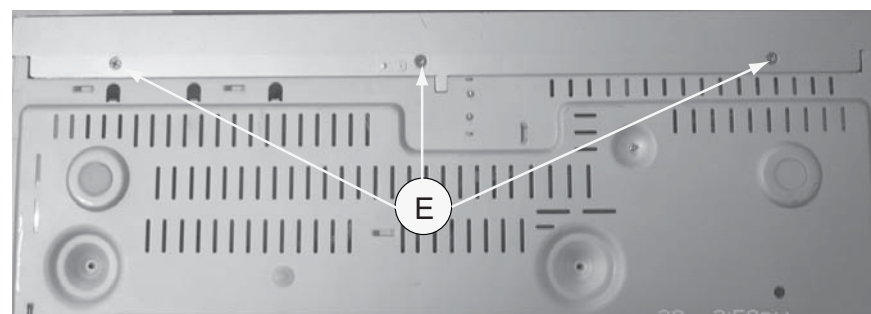

Figure 5
- 3 screws "E" on the bottom as show in figure 5